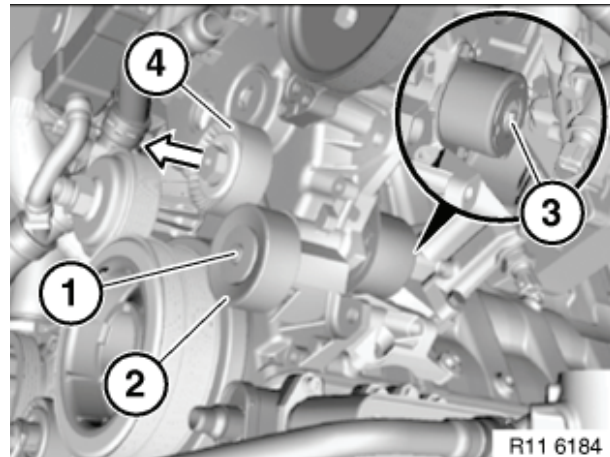

Figure 11-4
6. Remove bolt (**Figure 11-4, (1)**) securing idler pulley (**Figure 11-4, (2)**). Remove idler pulley.
Note: Bolt (**Figure 11-4, (3)**) must be removed and installed with the belt tensioner spring assembly.
7. Loosen bolt (**Figure 11-4, (3)**) securing tensioning pulley and arm to belt tensioner spring assembly.
8. Remove arm and pulley (**Figure 11-4, (4)**) in direction of arrow.